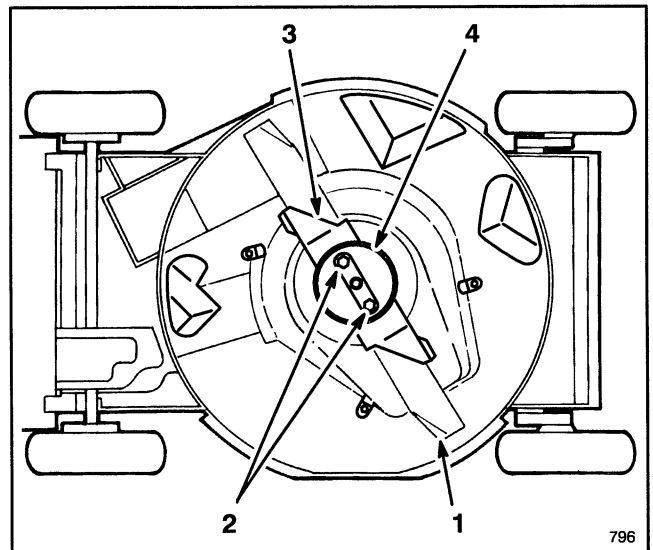

Figure 24
3. Tip mower on its left side (Fig. 24).
5. REMOVING BLADE—Grasp end of blade using a rag or thickly padded glove. Remove blade nuts, anti-scalp cup, accelerator, and blade (Fig. 24).